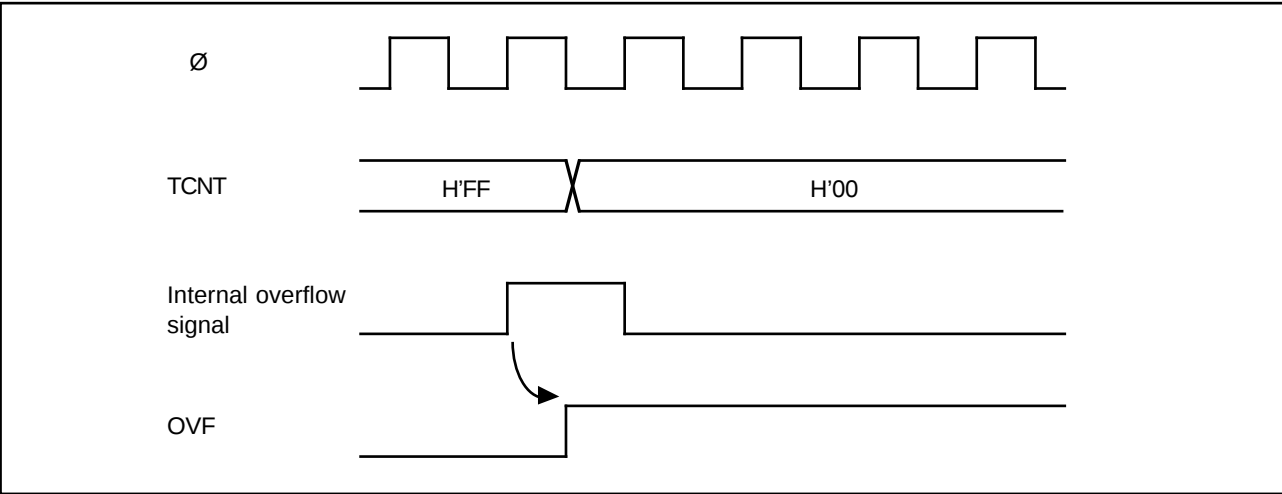

Figure 7-10. Setting of Overflow Flag (OVF)
(1) Setting of TCSR Overflow Flag (OVF): The overflow flag (OVF) is set to “1” when the timer count overflows (changes from H’FF to H’00). Figure 7-10 shows the timing of this operation.